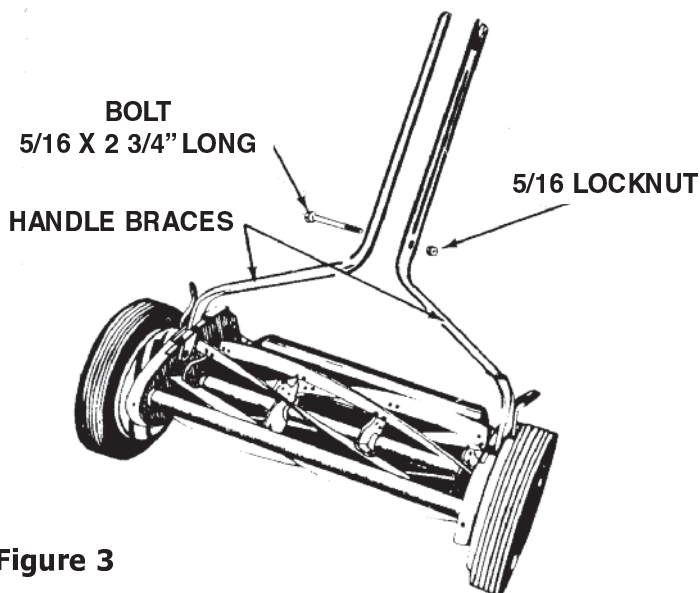

Figure 3
3. Insert a 5/16 x 2 3/4 inch bolt thru braces and hand tighten the nut (fig.3)
7. Tighten all four handle bolts and nuts as shown in figures 3 and 4. If necessary, retighten the 12 x 1 screws into the handle panel.